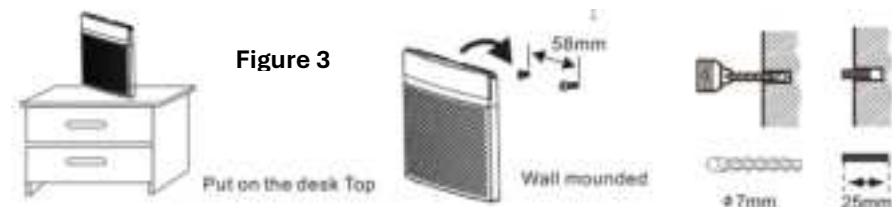

Figure 3
*The push button may already be programmed to the receiver. Ensure the battery is installed and the receiver has power (batteries or plugged in). Test by pushing the push button. Ensure the function switch (see Figure 3) is set to sound mode for programming and plugged into a wall outlet.*
The LRA-DCRX-L receiver can be placed on a flat surface or mounted to a wall. It includes a mounting template for hole placement (see Figure 3).
- On the receiver, hold down the • zone selector button (see Figure 3) until you see the red LED for a zone starts to blink. This denotes that the unit is in programming mode. Release this button.